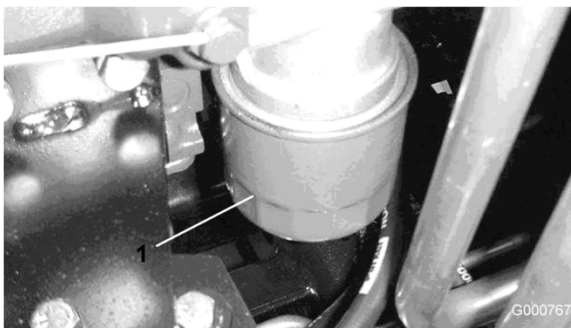

Figure 43
2. Remove oil filter (Figure 43). Apply a light coat of clean oil to the new filter seal before screwing it on. Do not over-tighten.